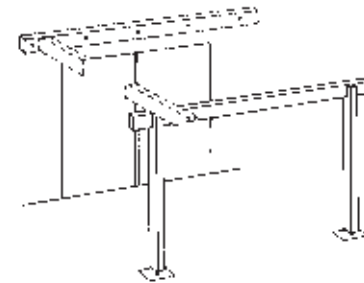

Fig 7 Fix rafter on to the beams.
- For a house fixed pergola, fix a beam or wall plate to the house at the appropriate height. Use Mungo bolts to fix the wall plate to a masonry wall, whilst you should use coach screws if fixing to a timber wall (Fig 6). Measure and cut the rafters to length, allowing sufficient length for the end decoration (Fig 7).